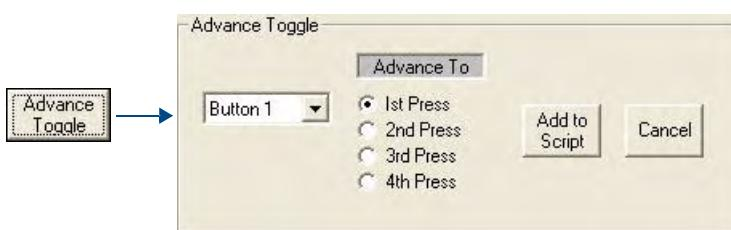

FIG. 81 Advance Toggle window
- 1.** Click the **Advance Toggle** button in the Command Bar to open the *Advance Toggle* window (FIG. 81).